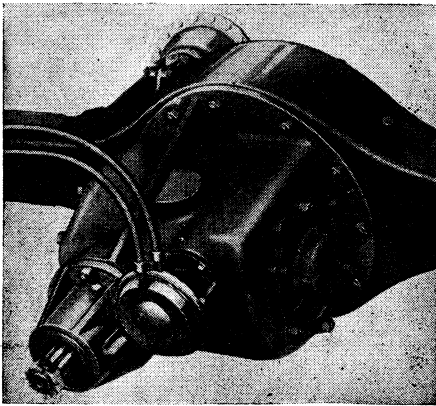

Fig. 15 Front mounted power actuated shift unit
18. To remove the front mounted type power unit, Fig. 15, remove four cap screws and lock washers. Re-